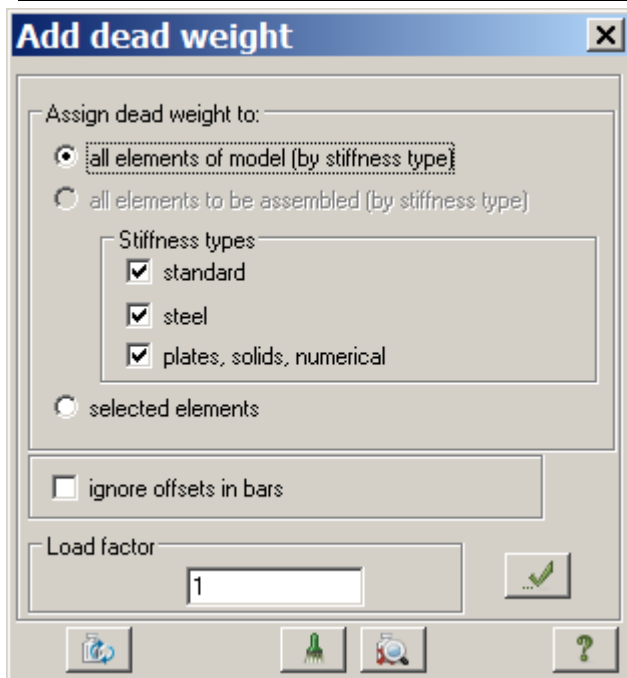

Figure 4.20 Add dead weight dialog box
- ⇒ In the **Add dead weight** dialog box (see Fig.4.20), click **All elements** and specify **Load factor** as equal to 1. Then click **Apply**  (dead weight is automatically applied to elements).